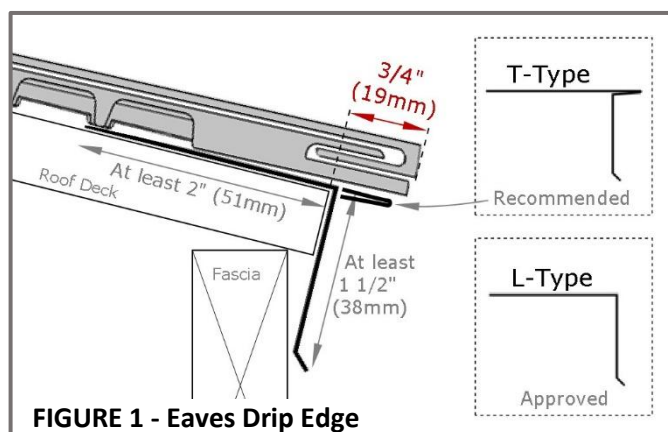

FIGURE 1 - Eaves Drip Edge
- EAVES** - Install L-Type or T-Type drip edge. Drip edge must extend a minimum of **2" (51mm)** back from the roof edge, bend downwards over the fascia at least **1 1/2" (38mm)**, and kick out to direct water away from the fascia board. See **Figure 1**. F-WAVE recommends T-Type drip edge extending out from the eaves **1/2" (13mm)**. Apply underlayment over drip edge metal at eaves.
- Install either a T-Type or an L-Type drip edge at the eaves. Starter must overhang the eaves edge by **3/4" (19mm)**. See **Figure 1**.